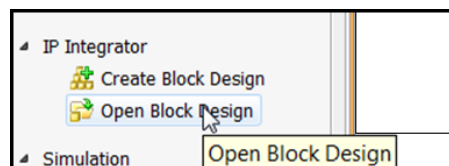

Figure 30: IP Integrator - Open Block Design
1. In the Flow Navigator, click **Open Block** to invoke the IP integrator design (FIGURE 30).